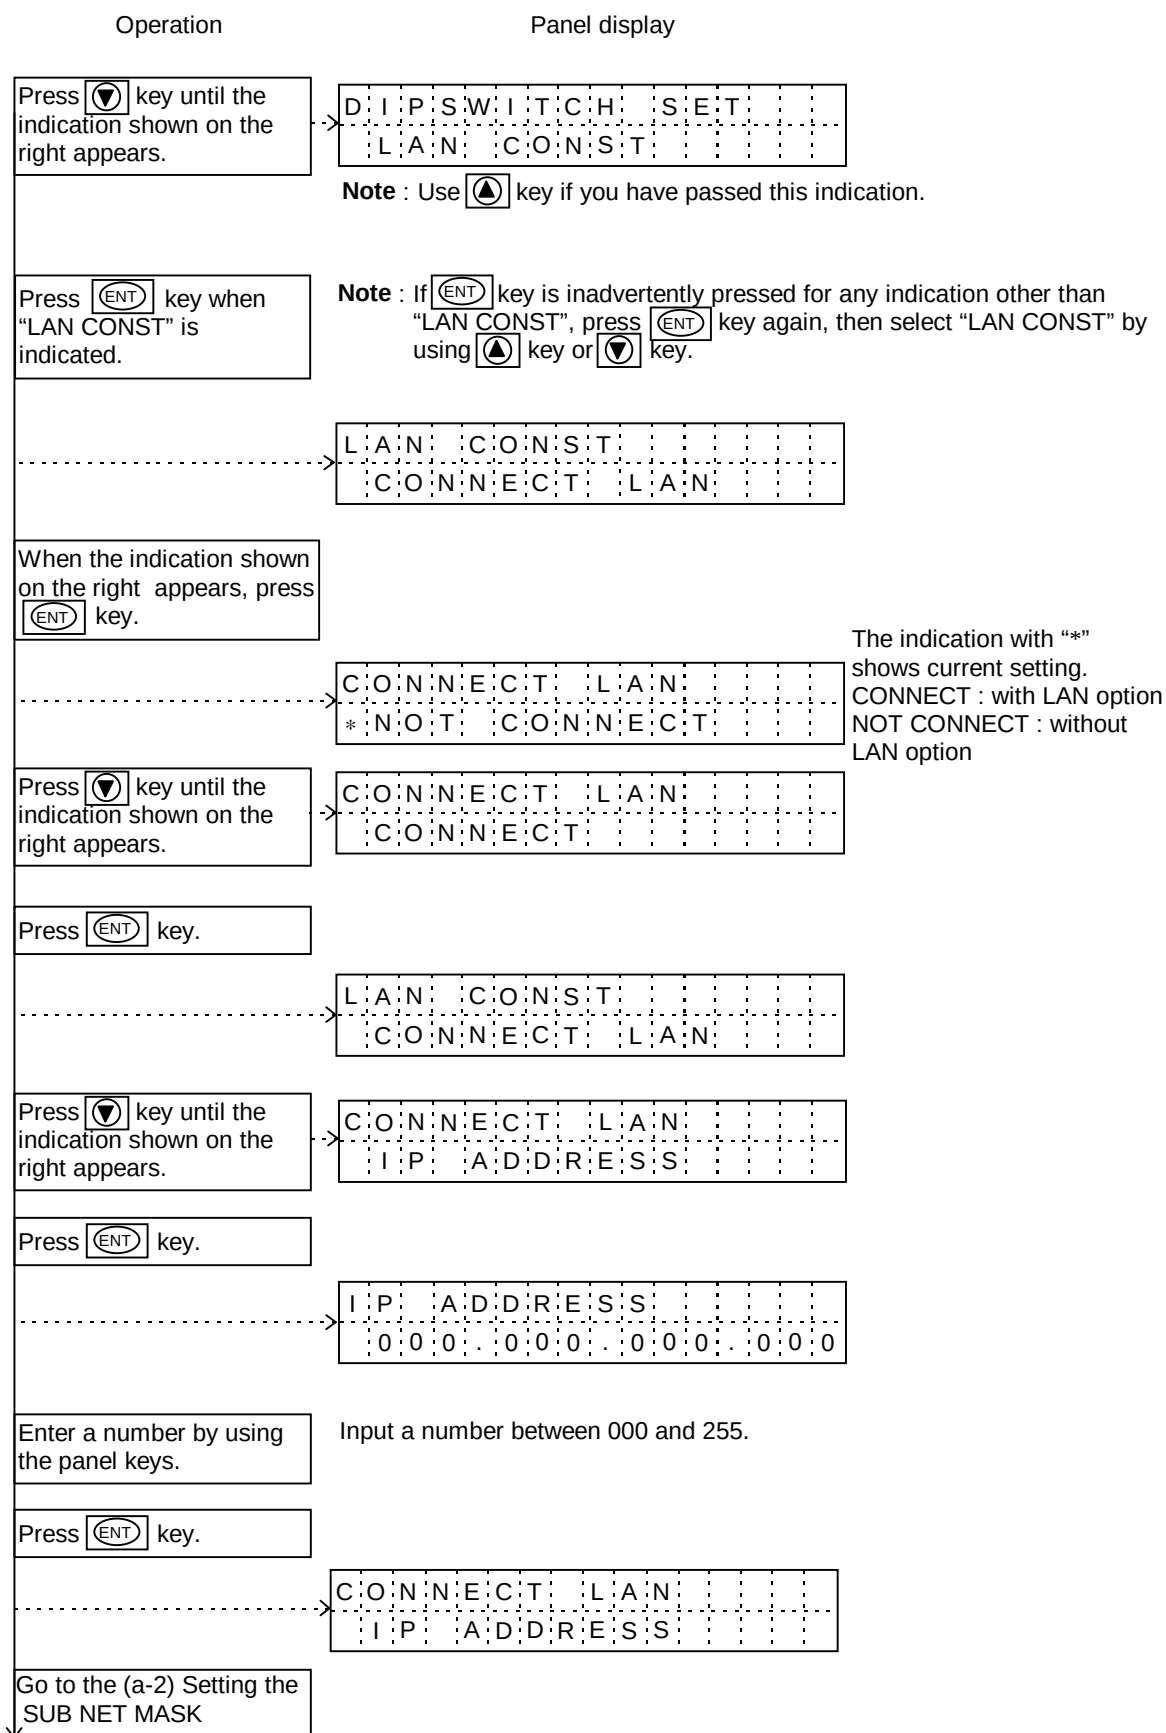

Figure 4.1.2 DIP switches (For setting the system parameter)
- (1) Before powering on the subsystem, set DIP switches No. 4 and 6 as shown in Figure 4.1.2 .